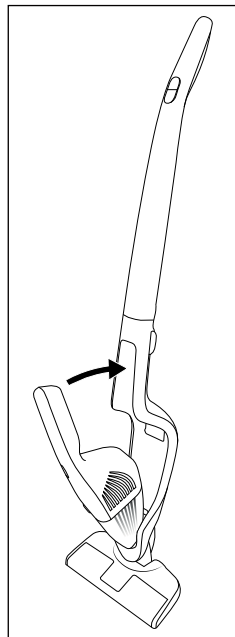

Fig. 2
- 2) Then press the grip **1** of the hand element **3** into the handle rod **10** until the hand element **3** clicks firmly into place (Fig. 2).